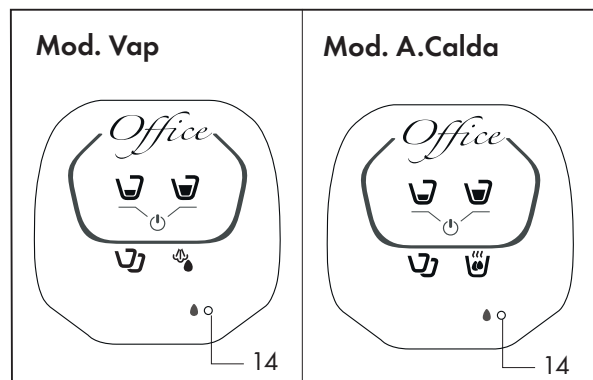

Fig. 4
When the indicator light (14) **(Mod. Vap - A.Calda)** on the control panel comes on, it means that there is no water in the tank **(Fig. 4)**; fill the tank (8) as described above.